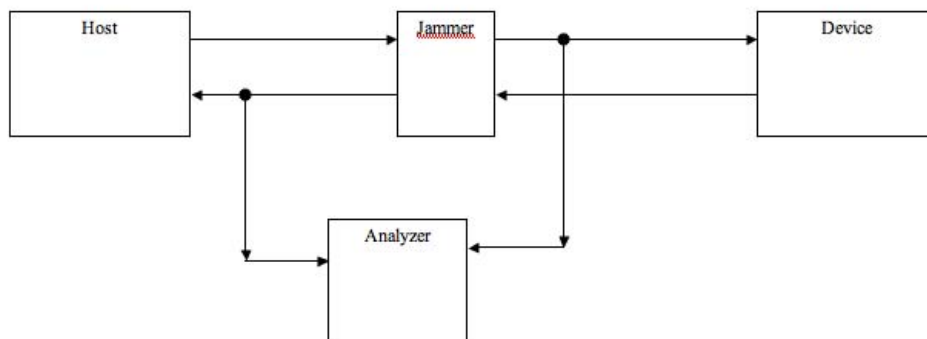
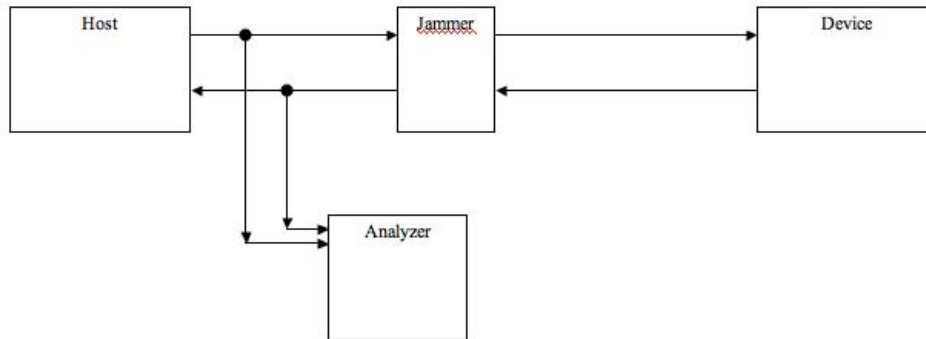
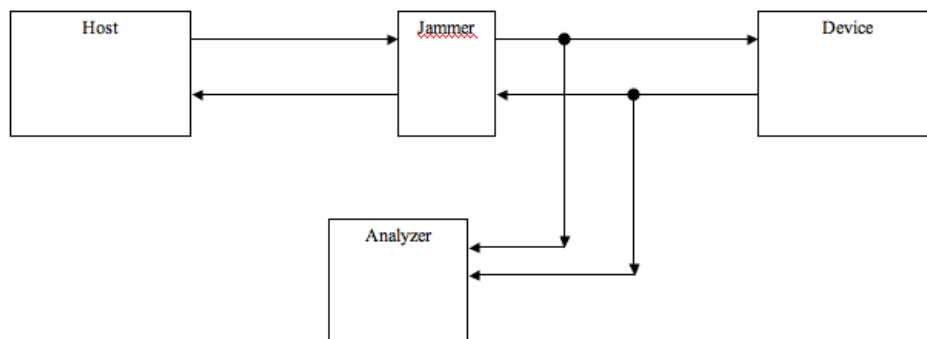

Figure 4.9: Jammer and Analyzer with Analyzer after Jammer
Figure 4.10: Jammer and Analyzer Host Side
Figure 4.11: Jammer and Analyzer Device Side
- **JA (After Jammer):** Analyzer captures Jammer to Host and Jammer to Device. Analyzer is after Jammer on both paths. See Figure 4.9.
- **JA (Host Side):** Analyzer captures Host to Jammer and Jammer to Host. Analyzer is before and after Jammer on Host side. See Figure 4.10.
- **JA (Device Side):** Analyzer captures Jammer to Device and Device to Jammer. Analyzer is before and after Jammer on Device side. See Figure 4.11.
Note: When the Unit Under Test (UUT) is the Host, using JA (Host Side) (see Figure 4.10) will give the most accurate recordings of Host behavior, though the Jammer delays will accumulate in the round trip. When the Unit Under Test (UUT) is the Device, using JA (Device Side) (see Figure 4.11) will give the most accurate recordings of Device behavior, though the Jammer delays will accumulate in the round trip. The After Jammer configuration (see Figure 4.9 on page 329) is useful when debugging a system, as the tapping points are balanced to account for Jammer delays. Note that when SATA traffic is recorded, this configuration might show out of order HOLD/HOLDA primitives, due to the special handling of these primitives by the Jammer.